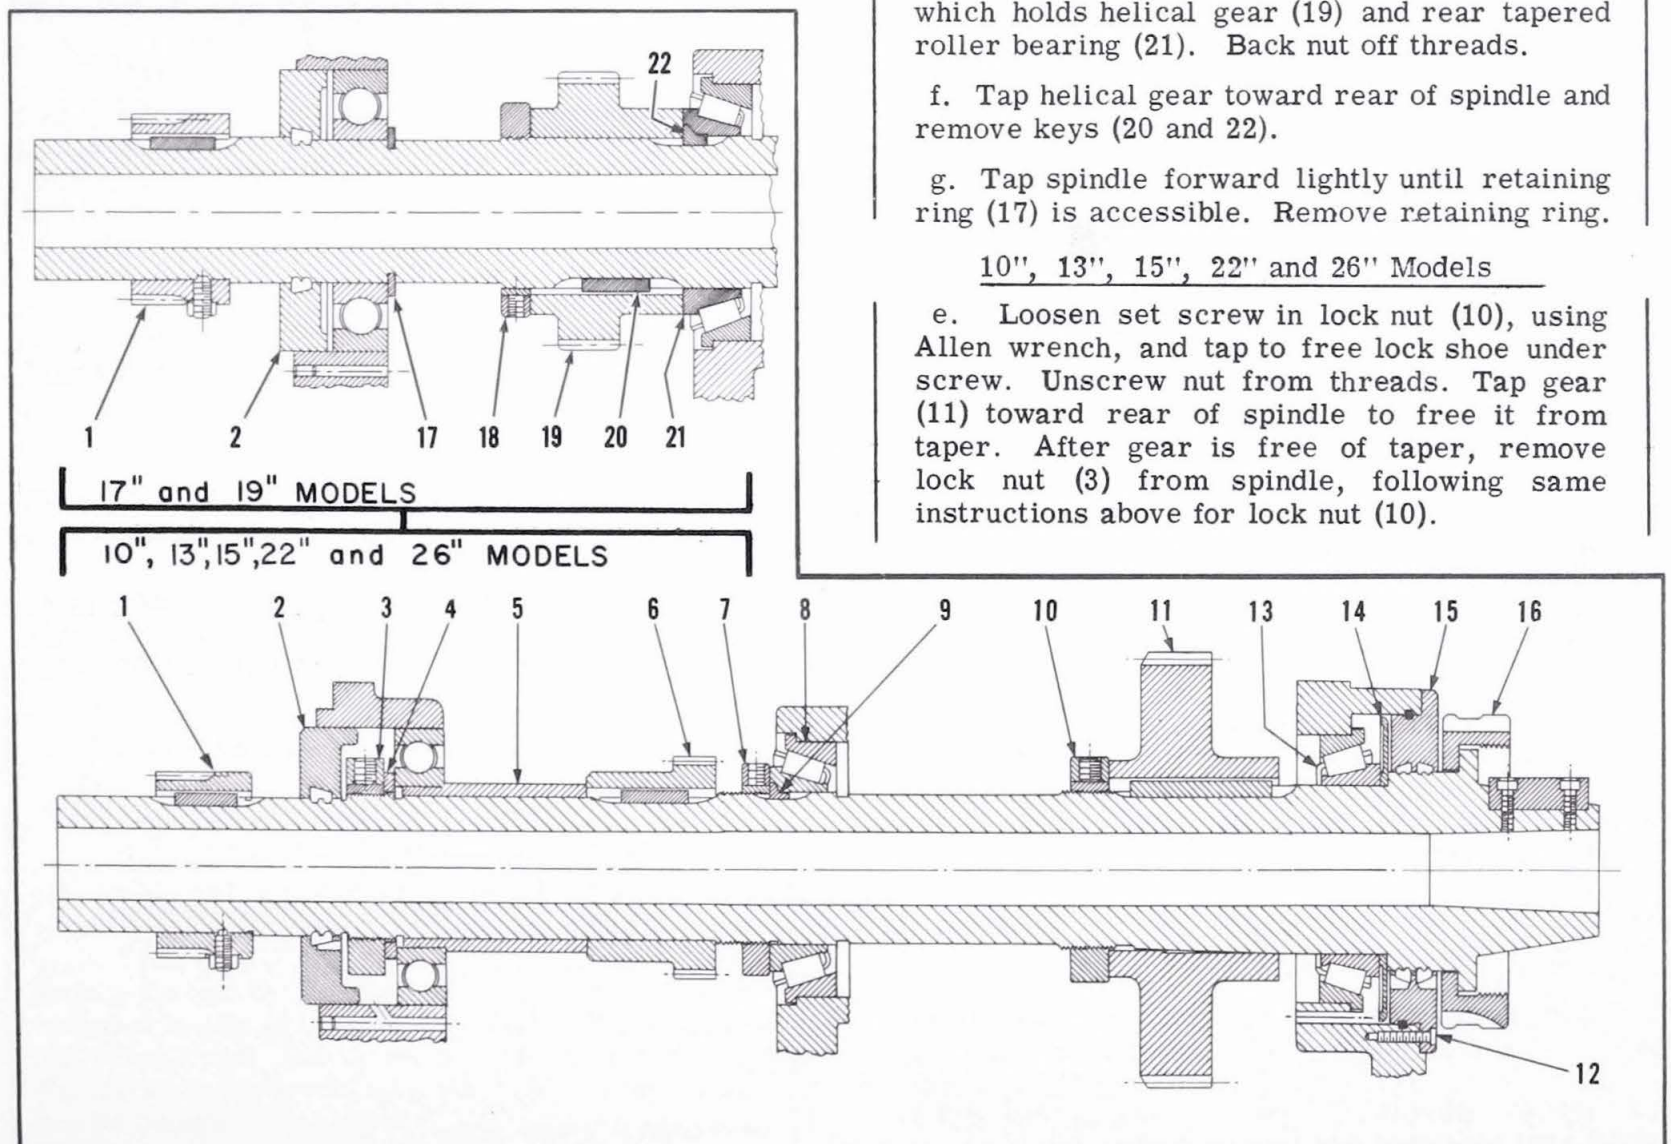

Figure M23. Headstock Spindle
TO REMOVE AND DISMANTLE HEADSTOCK SPINDLE (See figure M23.)
c. Remove quadrant gear (18 or 55, page RP24 and end gearing pinion (1, Figure M23) (except 22" and 26").
d. Remove bearing cap (2). This cap is a plug fit in the headstock and has two 3/8-16 tapped holes to facilitate removal.